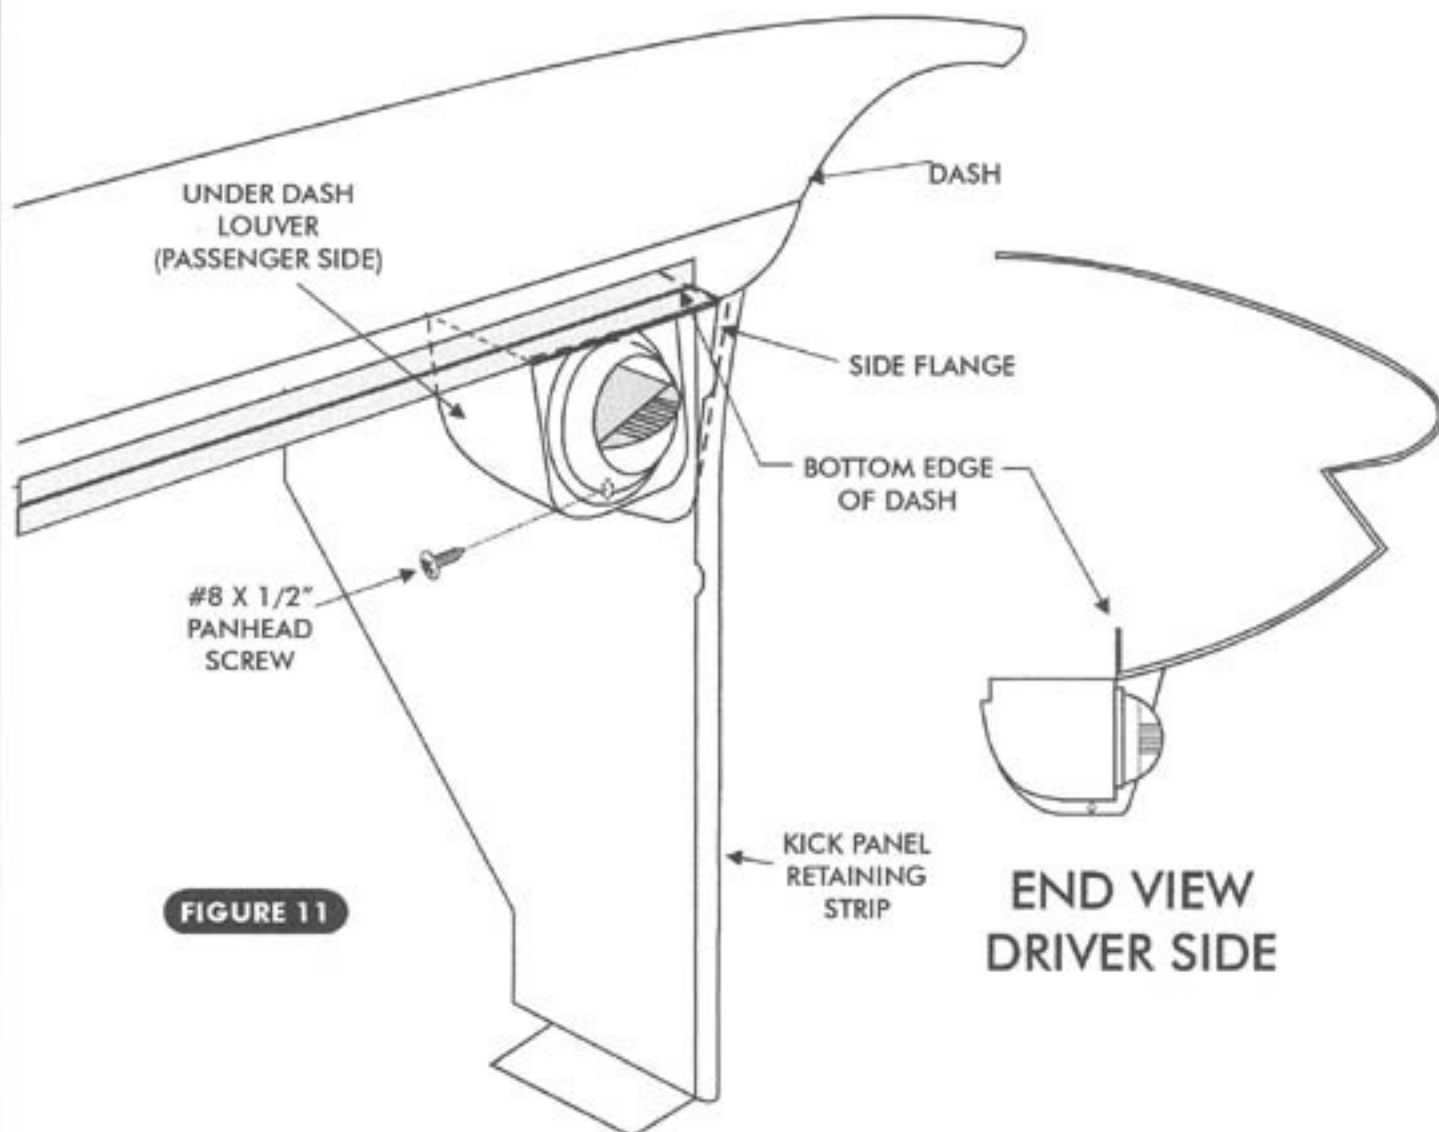

FIGURE 11
- ☐ INSTALL DRIVER & PASSENGER UNDER-DASH LOUVERS. SEE FIGURE 11, PAGE 16.
- ☐ SLIDE LOUVER UP TOWARDS BOTTOM OF DASH UNTIL THE LOUVER IS SEATED AGAINST DASH, AND SECURE TO KICK PANEL WITH SUPPLIED #8 x 1/2" PANHEAD SCREW. SEE FIGURE 11 ABOVE.